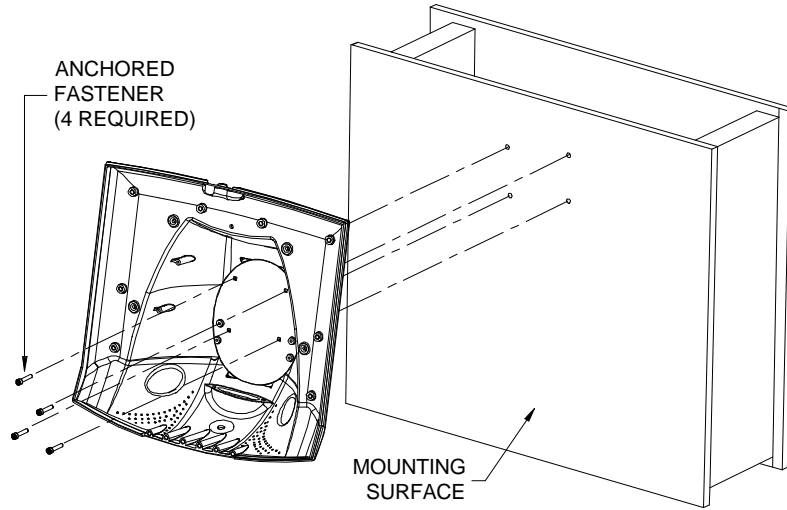

FIGURE 3A - VIBE WITH BILL ACCEPTOR - SURFACE WALL MOUNTING OF TERMINAL
4. Secure the terminal to the wall with sufficient hardware to support the weight of the terminal (22 pounds for Vibes with bill and 50 pounds for Vibes with coin). See Figure 3A for Vibes with bill and 3B for Vibes with coin.